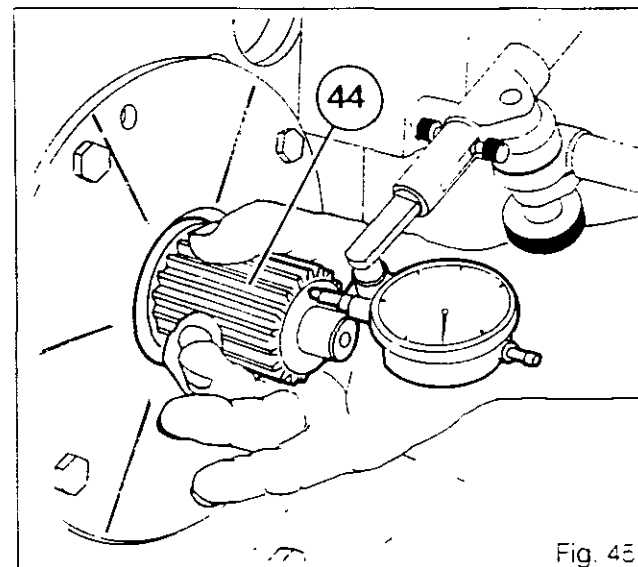

Fig. 45
**Note: For gearboxes fitted with the creeper range, use the gearbox plate (Fig.45) instead of the lock plate. Tighten the bolts to a torque of 34-52 Nm.**